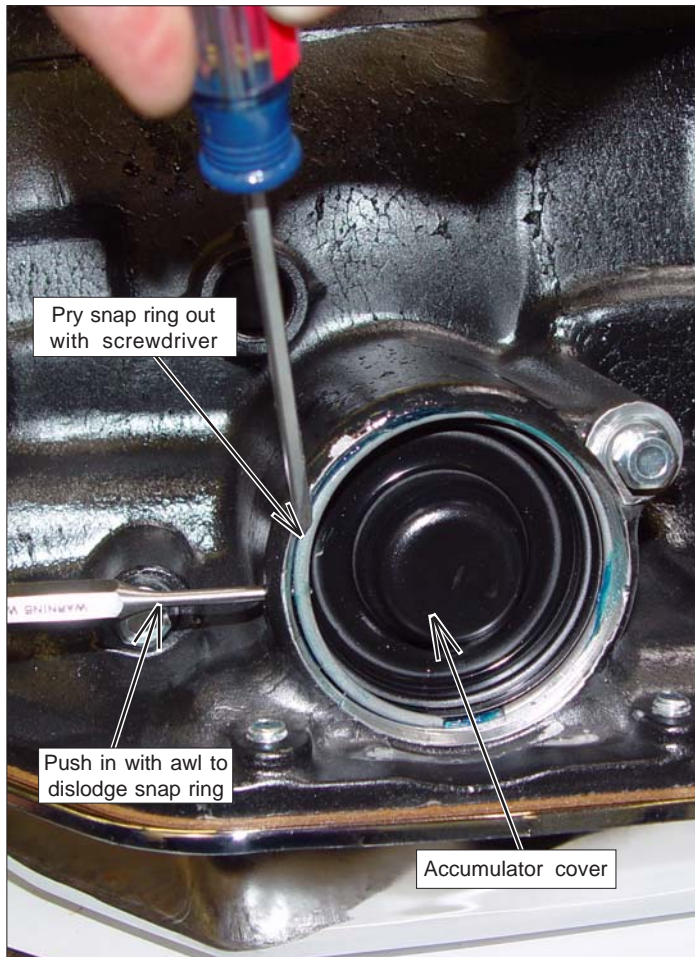

Figure 10
STEP 18. Heavy Duty Only: Use an awl or small screwdriver to dislodge the accumulator snap ring located on the right side of the transmission case (See Fig. 10). Pry the snap ring out with a screwdriver. There is some spring loading underneath, so exercise care. Remove the accumulator cover, o-ring and accumulator spring. Discard o-ring and spring. Install new o-ring supplied with the kit in position on the accumulator cover. Lubricate the o-ring with automatic transmission fluid and install cover and o-ring into case. Install snap ring making sure it is fully seated in its groove.